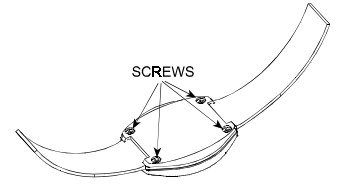

Figure 2. Opening the Case
B. Loosen and remove the 4 screws where shown in Figure 2. Take care not to lose the screws - you will need them again.